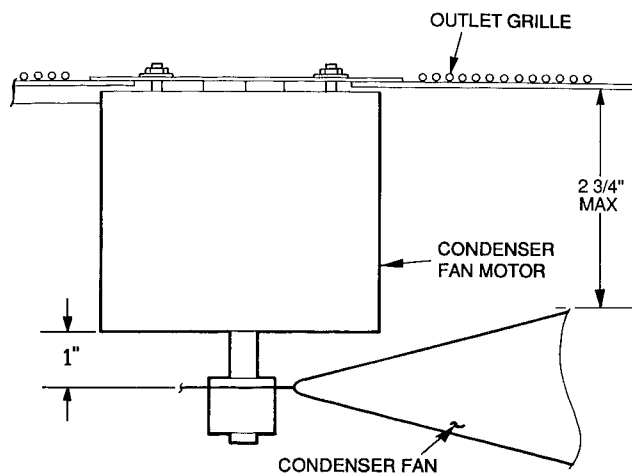

Fig. 30 — Condenser-Fan Adjustment
Condenser-Fan Adjustment (Fig. 30)
4. Adjust fan height as shown in Fig. 30.